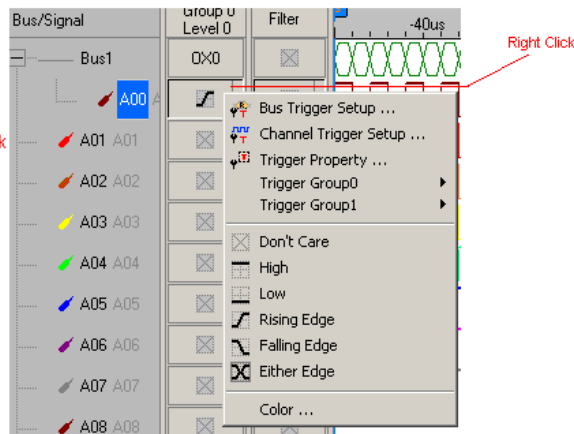

Fig 4-26 – Right Click
2. Right Click to set the signal trigger edge as shown in Fig 4-26.